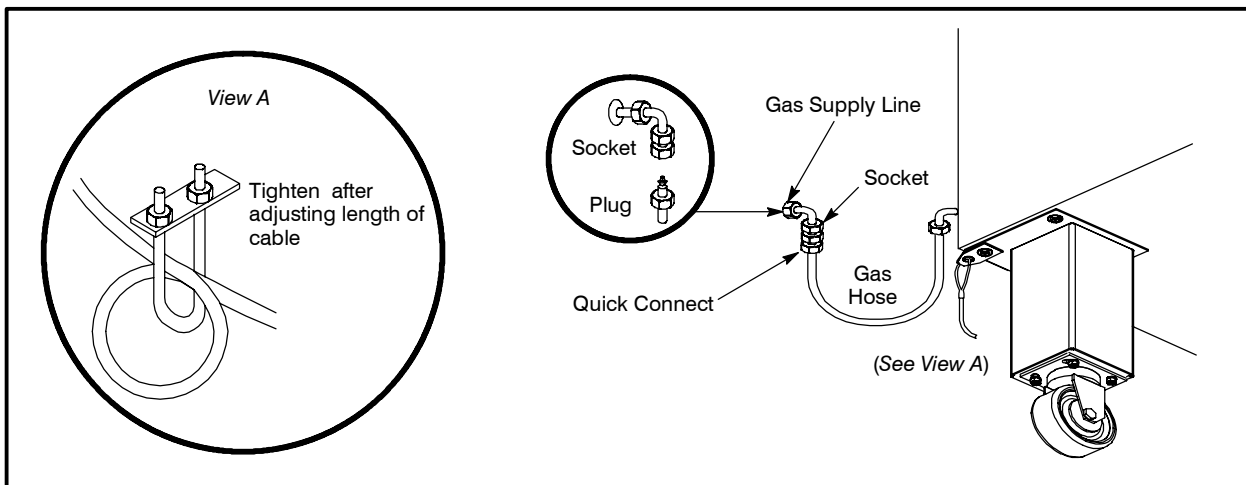

Figure 20
- The restraint should be short enough to prevent any strain on the connector. See Figure 20 View A for length adjustment detail.